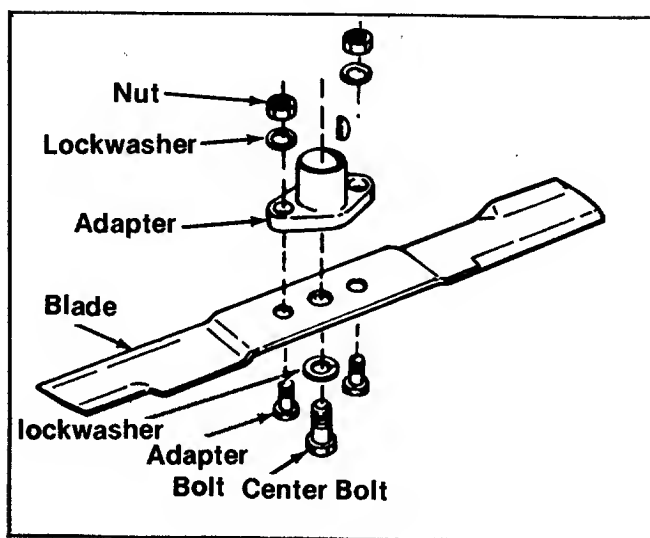

FIGURE 22. BLADE REMOVAL
**Removing and Sharpening Blades.** Remove the center bolt and lockwasher. See figure 22. Pull the blade and blade adapter from the blade spindle.